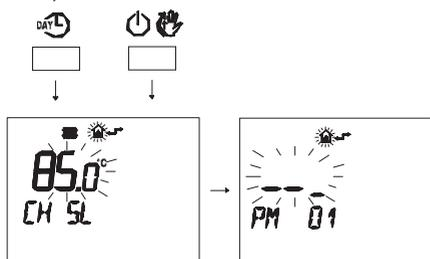

Fig. 7.40
- Press buttons and at the same time to enter transparent programming (Fig. 7.40).